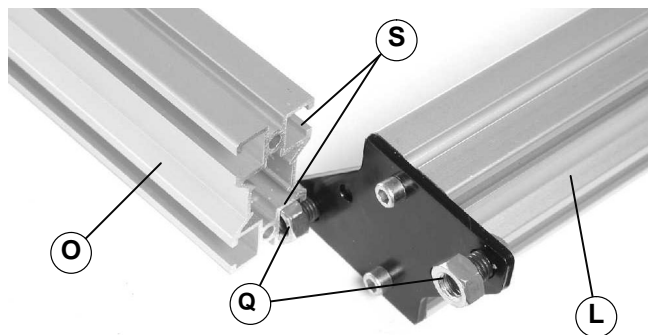

Figure 4
4. Align hex nuts (Q of Figure 4) on crossmember (L) to t-slots (S) at top of stand leg (O). Slide crossmember to bottom of stand leg. Do not tighten screws.